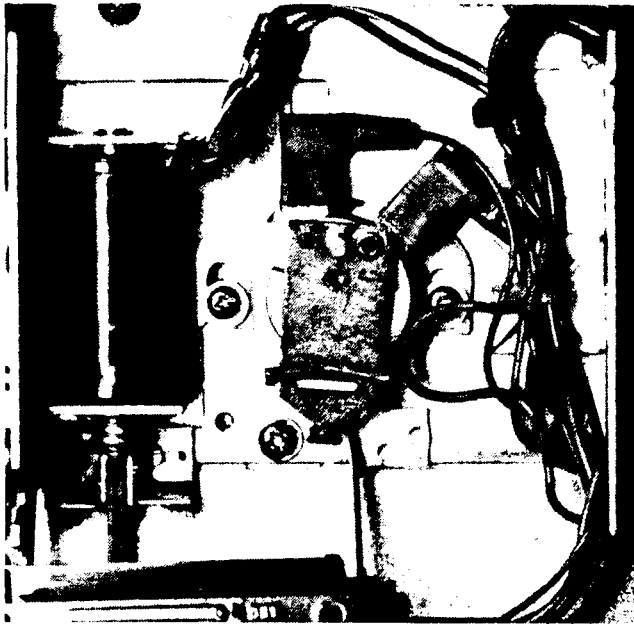

Figure 5-10
- 5) Turn lockout coil 180° and adjust for proper operation. See Figure 5-10 for the